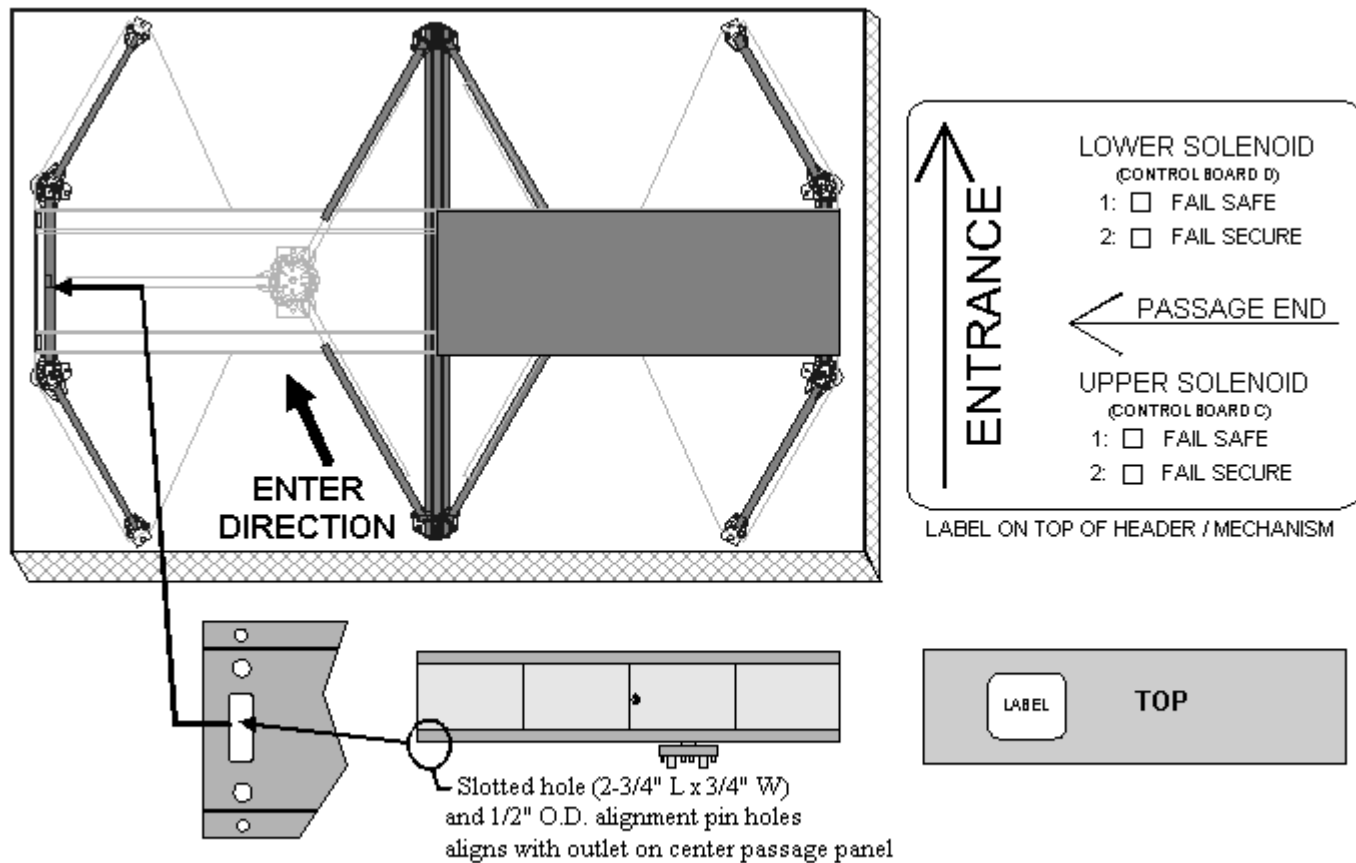

Figure 29 Header/Mechanism Identification
- The second header attaches to the Barrier Assembly and other Passageway the same as the first Header/Mechanism. See Figures 29 and 30 below.